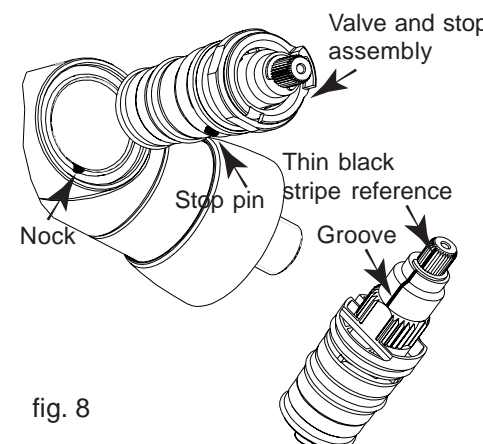

fig. 8
- Install the assembly cartridge + stop in the body, adjusting the stop pin in the notch (fig. 8).
- Check that the black line is correctly in line with the slot (fig. 8).